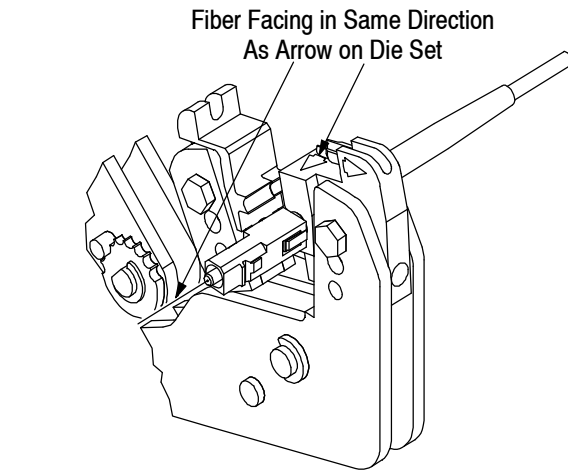

Figure 10
8. Insert the crimp eyelet and plug assembly into the dies as shown in Figure 10. The plug assembly is properly oriented if the fiber is facing in the same direction as the arrow located on the recessed area of the die set. See Figure 10.